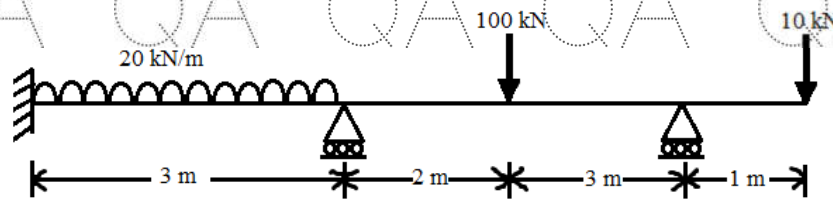

Figure 3
3. Analyse the beam shown in figure 3, using Kani's method. Assume constant EI . Draw BMD and Elastic curve.